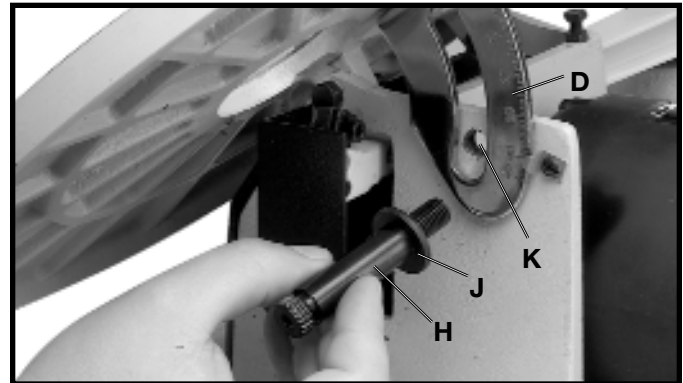

Fig. 9
7. Screw threaded end of stud (H) Fig. 9, with the M10 flat washer (J) through slot in angle of tilt scale (D) and into tapped hole (K).